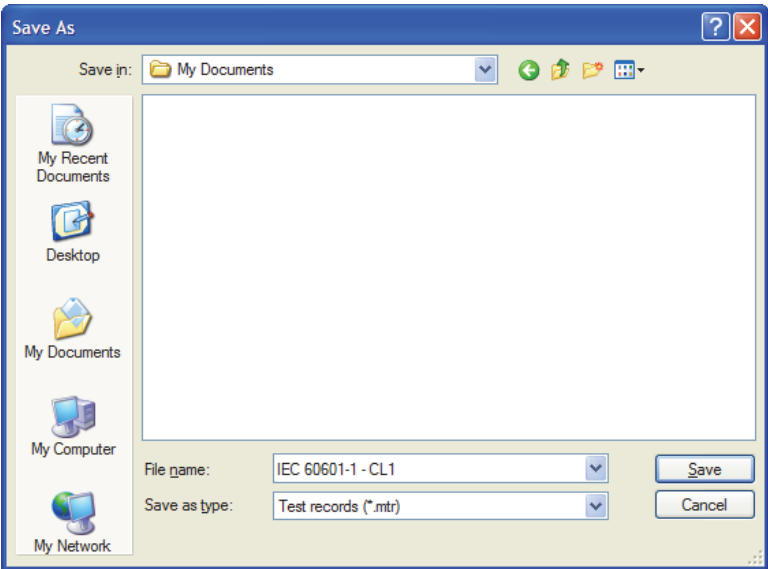

Figure 3-28. Save As Dialog Box
- 1. Click **File | Save** on the main menu or click  in the toolbar. The **Save As** dialog box shown in Figure 3-28 shows in the display.